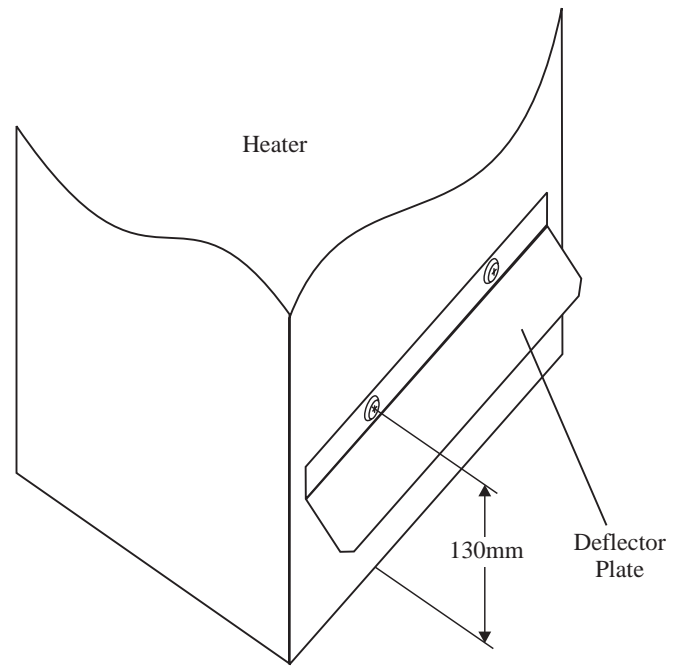

Fig. 3
- 5.4.2 The deflector plate prevents spillage from the draught diverter in the event of a leak between the air heater and the base plenum and MUST be fitted as shown in fig 3 using the pre-drilled holes and the 2 x No8 screws provided.